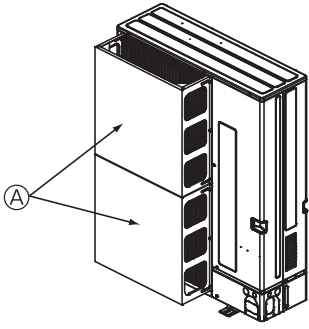

Fig. 2-16
- ① Install an optional air protect guide if the unit is installed in a location where strong winds from a typhoon, etc. may directly enter the air outlet. (Fig. 2-16)